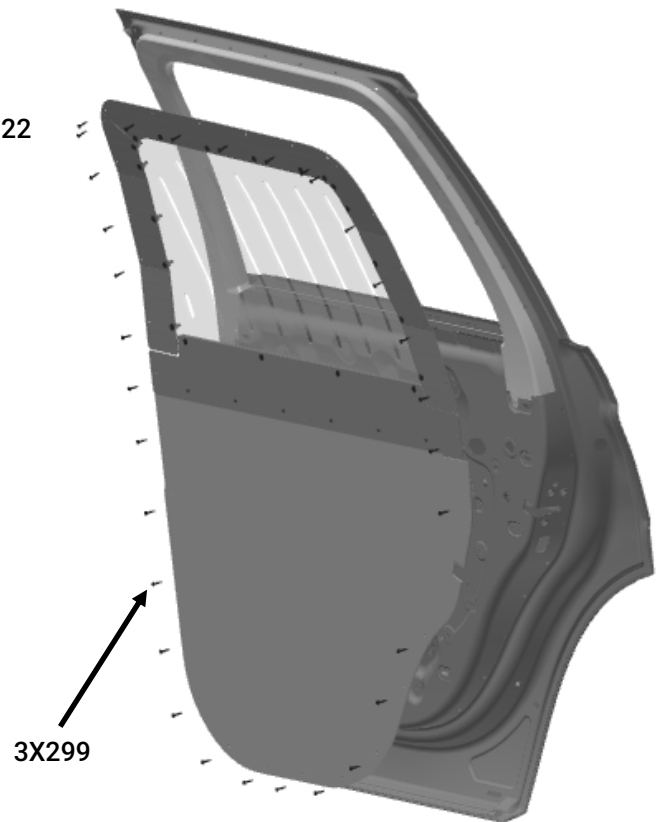

Fig. 3
- A. Raise the window armor and door panel assembly above the vehicle door and insert the lower frame flanges into the window track. It is necessary to push on the front side of the lower window armor bracket in order to flex the window armor into place on the door. (Fig. 3)
- E. Once fitted satisfactorily, drive (16) self-drilling screws [3X299] into the upper door. (Fig. 3)
- F. Drive (2) more screws [3X299] through the lower bracket into the door.
- G. Drive the remaining (13) screws [3X299] into the door panel and door. If necessary, drill a 7/64" pilot hole.